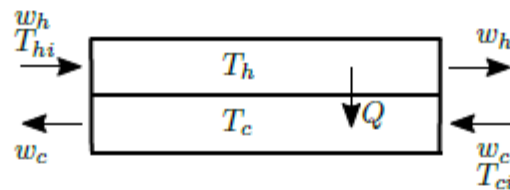

Figure 3: Simple heat exchanger
- (2 %) (c) Make a sketch of the temperature profiles in the hot and cold stream of a counter-flow heat exchanger (in principle like the one shown in Figure 3, where the hot and cold fluid enter on different ends). Draw them both in the same diagram, with position along  $x$ -axis and temperature along  $y$ -axis. Mark  $T_{ci}$  and  $T_{hi}$  in the sketch.
- (2 %) (d) Do the same for a heat exchanger with parallel flows (where the hot and cold fluids enter at the same end, compared to Figure 3 where they enter on opposite ends). Why do you think counter-flow heat exchangers might be a better set-up than a heat exchanger with parallel flows?
Consider Figure 3. The the hot and cold mass flow rates  $w_j$ ,  $j = \{h, c\}$  are assumed constant, such that the mass on each side are constant. The inlet temperatures are  $T_{hi}$  on the hot side, and  $T_{ci}$  on the cold side. The heat transfer from hot to cold side is